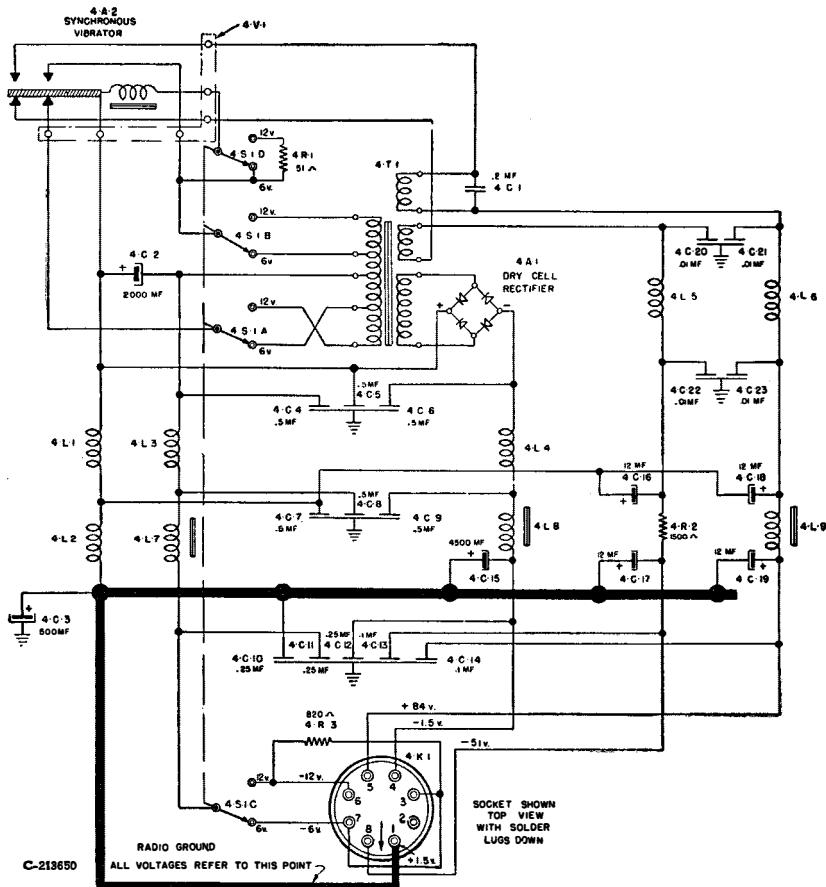

FIG. 20. POWER CONVERTER PE-104-A, SCHEMATIC DIAGRAM
17. Power Converter PE-104-A (FIGS. 20 & 21)
- Primary voltage enters connector 4-K-1 at point No. 1 to No. 6, or point No. 1 to No. 7 (as selected), Figure 20, and terminates at the center tap of the primary of Power Transformer (4-T-1). It is filtered by iron core choke (4-L-7), air core choke (4-L-3), and capacitors (4-C-11, 4-C-8, 4-C-4, and 4-C-2). The positive side of the vibrator is connected from the return bus and filtered to the vibrator by capacitors (4-C-3, 4-C-5, and 4-C-7) and air core chokes (4-L-1 and 4-L-2).
NOTE: POWER CONVERTER PE-104-A, PROCURED ON ORDER No. 29069-PHILA-45-10, IS SIMILAR TO THE POWER CONVERTER PE-104-A AS SHOWN IN FIGURE 20 WITH THE ADDITION OF BALLAST RECTIFIER 4-A-3 IN THE FILAMENT CIRCUIT AND WITH THE ELIMINATION OF CAPACITORS 4-C-20, 4-C-21, 4-C-22, 4-C-23, CHOKES 4-L-1, 4-L-3, 4-L-4, AND 4-L-5. IT IS ALSO IDENTICAL WITH ALTERNATE POWER CONVERTER PE-104-A SHOWN IN FIGURES 48-A AND 48-B WITH THE ADDITION OF BALLAST RECTIFIER 4-A-3 TO THE FILAMENT CIRCUIT.